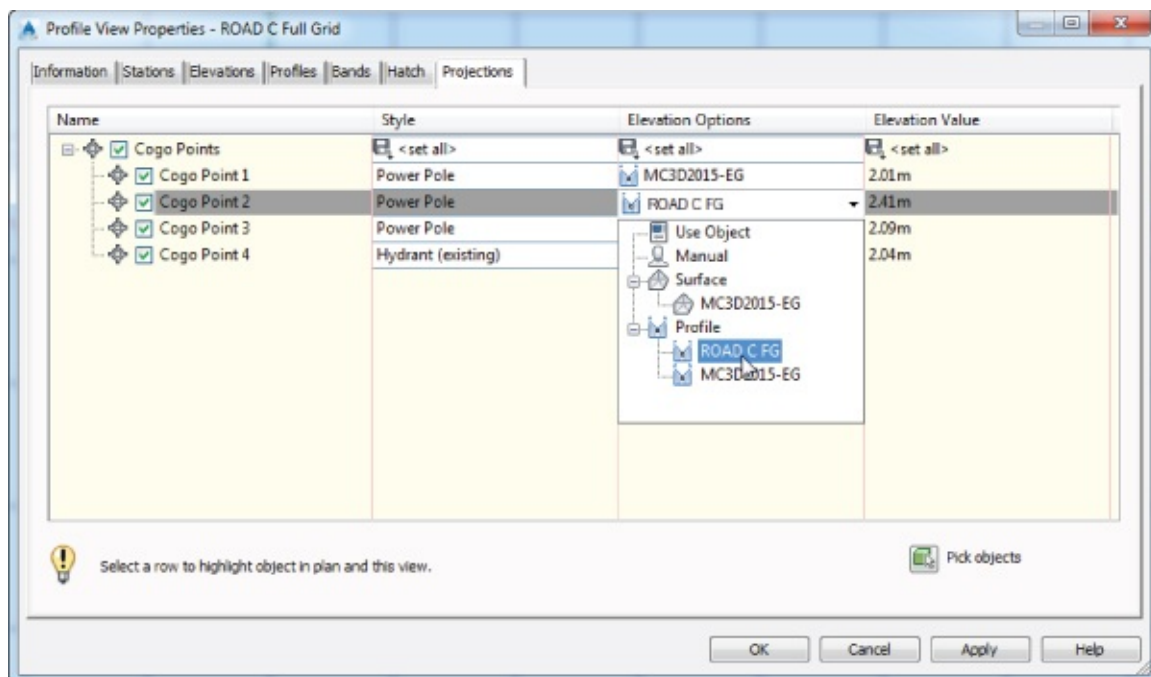

Figure 7.76 Selecting the ROAD C FG profile elevation
- In the Profile View Properties dialog, click the cell in the Elevation Options column for the Cogo Point 2 object, and from the drop-down select Profile > ROAD C FG, as shown in Figure 7.76. Click OK.